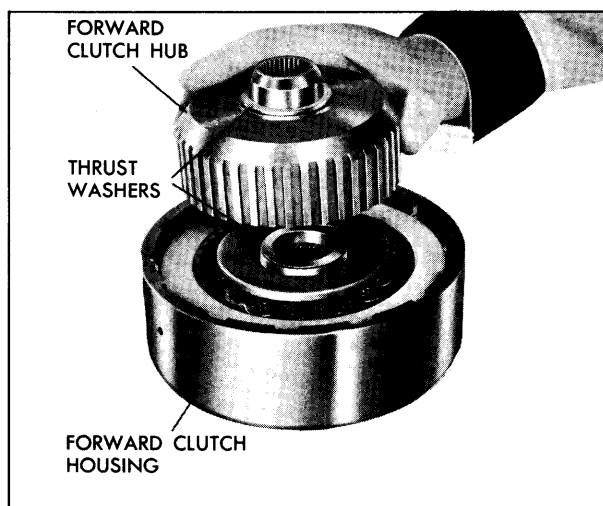

Fig. 7E-148 Removing Forward Clutch Hub and Thrust Washers
2. Remove the direct clutch hub. (Fig. 7E-147)